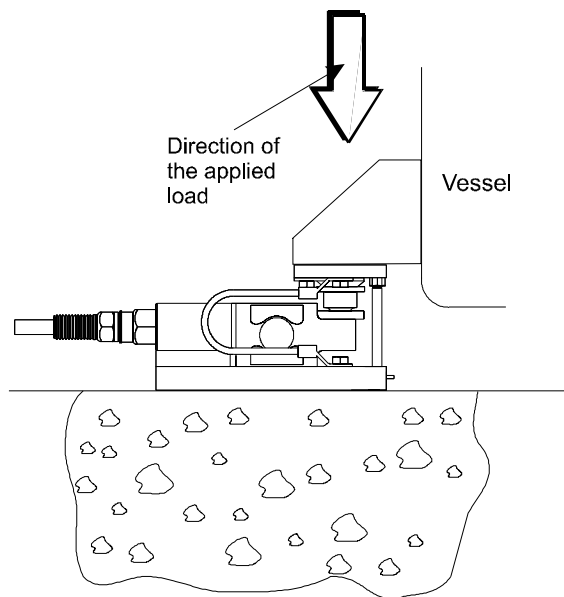

FIG. 2-1 PROPERLY INSTALLED LOAD CELL WITH NO BINDING
- Step 2. Check to see that the load sensor is mounted so that 100% of the load (Vessel with Contents) vertically passes through the load cell always at the same point. (See Fig. 2-1)